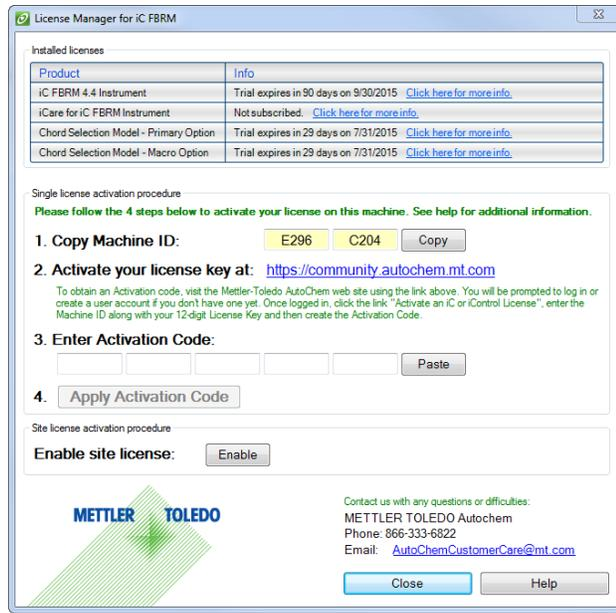

Figure 2: License Manager
2. In the License Manager window (**Figure 2**), click **Copy** after step 1 to copy the machine ID to your clipboard.